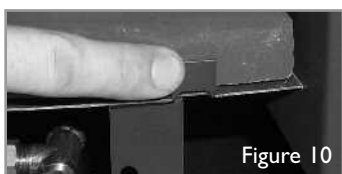

Figure 9
2. Position the front coal strip as shown in figure 9. The rear edge of the front coal strip should fit in front of the burner rail. Again, do not place on top of the burner rails. When the front coal is in position bend up the three metal tabs at the front of the tray to retain as shown in figure 10.